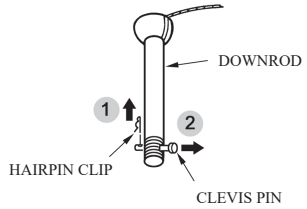

FIG.1
1. Remove the hairpin clip from the clevis pin and remove clevis pin from downrod. (See Fig.1)